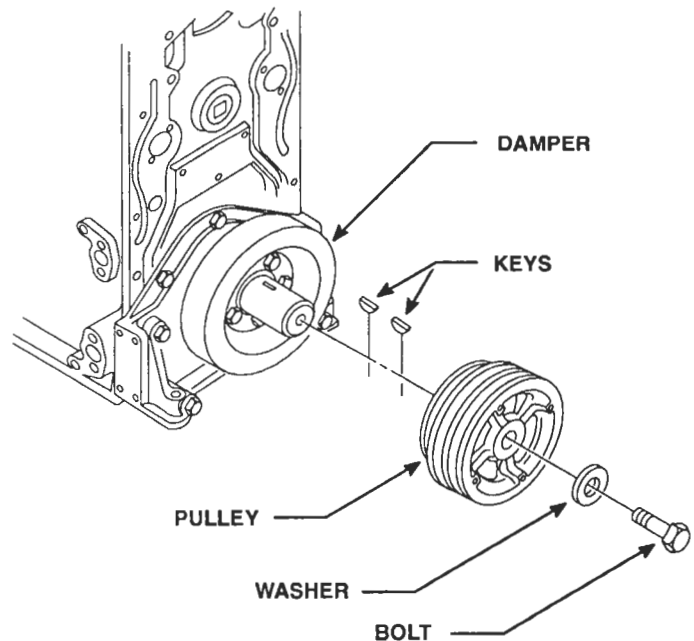

Figure 3. Crankshaft Pulley
1. Install the keys and/or cones in the front end of the crankshaft as they were removed (Figure 3.) Slide the pulley over the end of the crankshaft.